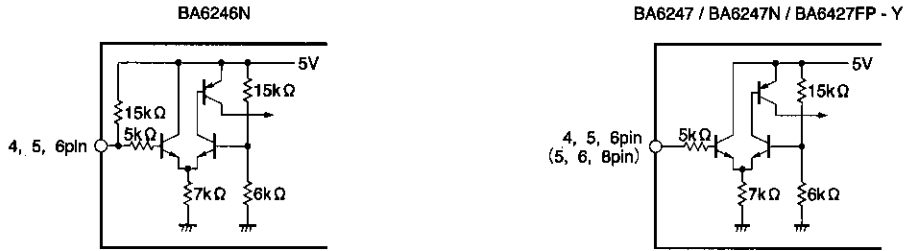

Fig.1
2) The input pins of the BA6246N are pulled up through a resistance of about 15kΩ (see Fig. 1). To secure the LOW level input, the interface to these pins should have a current-sink capability of at least 700 μA (5V/15kΩ×2).